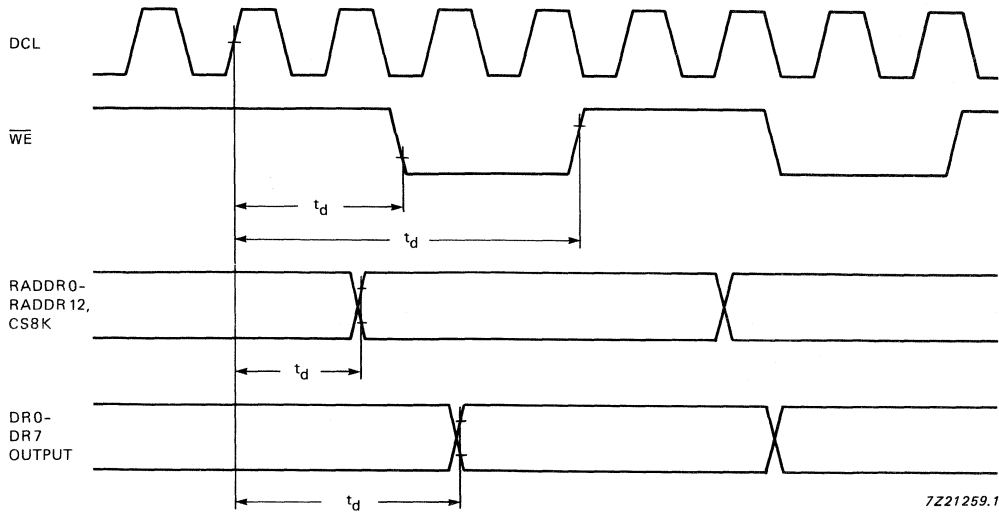

Fig. 5 PIP geometry; (a)  $k > 1$ , (b)  $k < 1$ .
5. If  $ACL = k \times 10,9$  MHz, the effects are shown in Fig. 5: